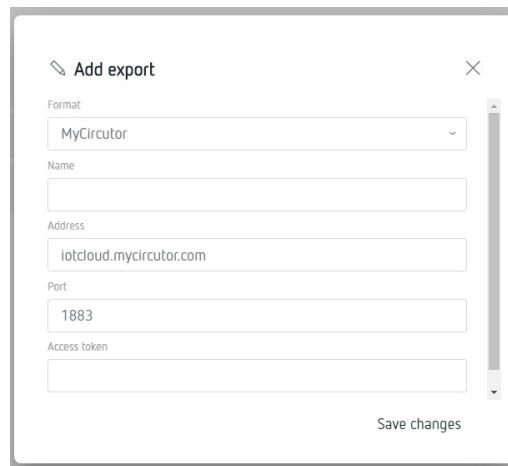

Figure 46:Export screen: Add Export.
Press  **Add export**, to select and configure the Cloud platform, the screen shown in **Figure 46** will appear.
6.- Copy the Token and enter it into the configuration website of the device, Figure 46.